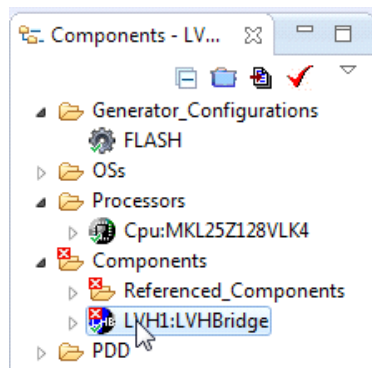

Figure 14. Select the Component
2. Double click LVHBridge component in the **Components** window (see Figure 14) to show the configuration in the **Component Inspector** view.